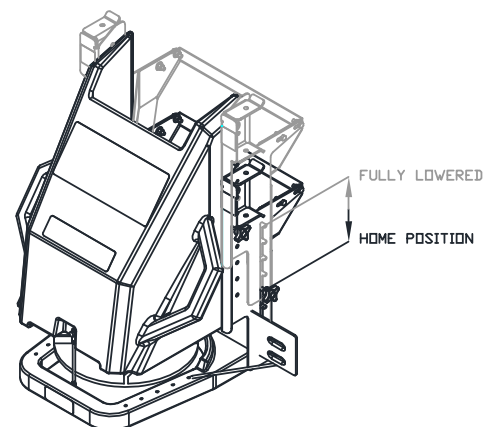

Figure 14. Spinner Assembly Adjust
4. Spinner Assembly can be adjusted up to 8 inches in 2 inch increments for vehicles with higher beds. See Figure 14.